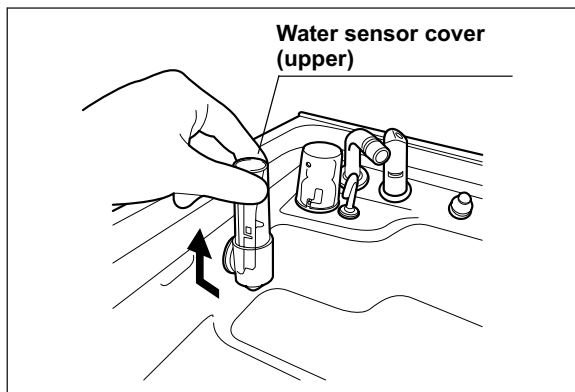

Figure 5.11
2. Push the water sensor cover (upper) and lift it up to remove as shown with the arrow in Figure 5.11.